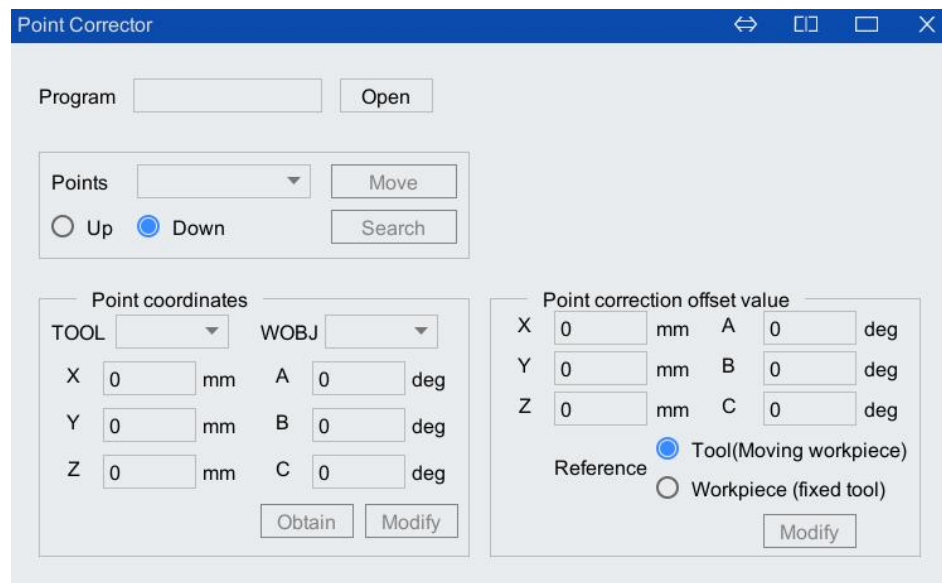

Figure 5-92 "Point Correction" Interface
Step1. On the main interface of the teach pendant, click "Run > Point Corrector" option to enter the "Point Corrector" interface as shown in Figure 5-92.